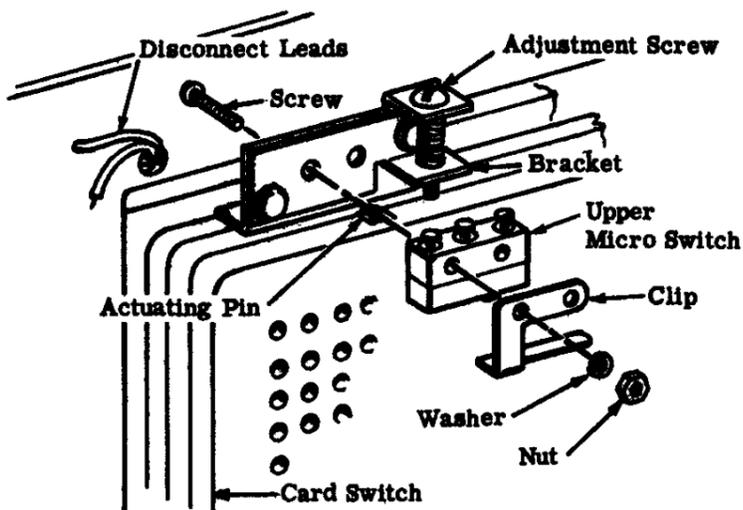

Figure 17 - Replacement of Upper Micro Switch
screw (see Figure 17), until the micro switch actuates (an audible CLICK can be heard).
6. 20 Replacement of Upper Micro-Switch. (See Figure 17). Unsolder leads from terminals on micro-switch. Remove nuts, washers and screws securing micro-switch to bracket. Remove microswitch. Exercise care not to lose small actuating pin in card switch. Install new micro-switch in reverse order of removal procedure.